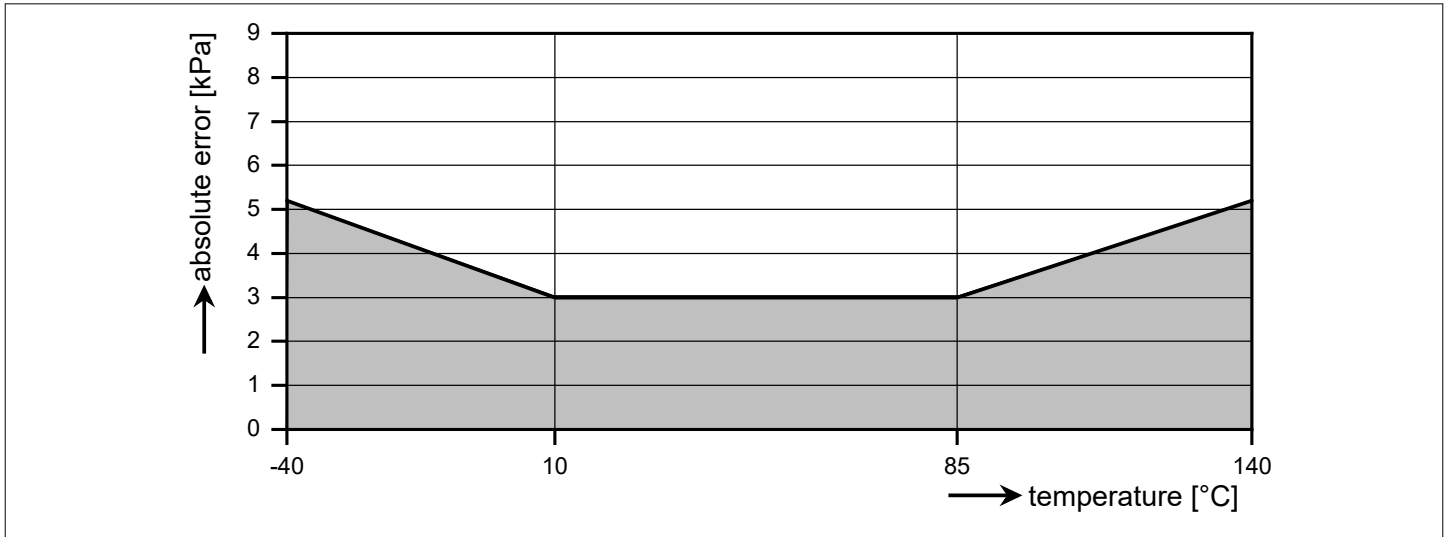

Figure 5 Accuracy for pressure acquisition
1) For more details see Figure 5 in section Overall accuracy